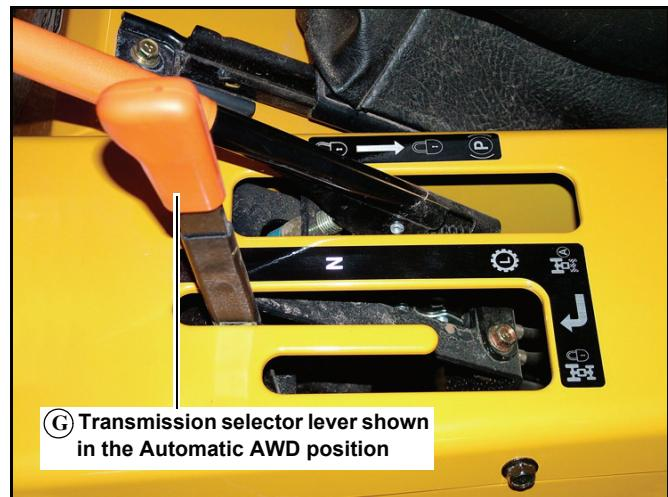
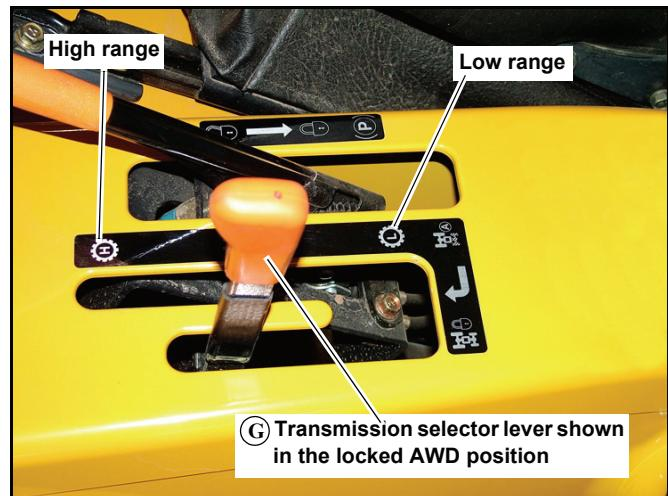

Figure 3-9
Figure 3-10
G. **Transmission Selector lever (Figure 3-9 & Figure 3-10)** — The Range Selection and the All Wheel Drive (AWD) Selection are controlled by the Transmission Selector lever. This lever can only be shifted when the HST foot pedal is in the Neutral position. When the Transmission Selector lever is located in the inside slot, the tractor will run in **Automatic AWD mode**. When the lever is in this position there are three settings: High range (H), Low range (L) and Neutral.